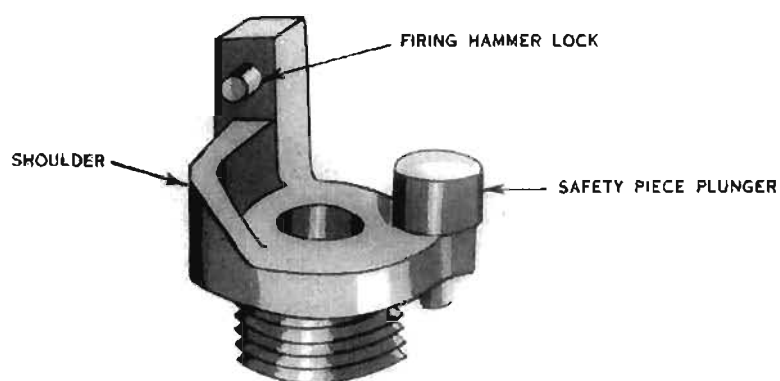

Figure 14
2. Note firing hammer lock, which locks firing hammer (fig. 14).